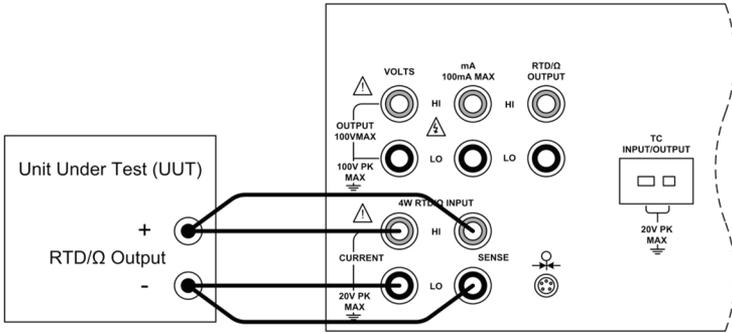

Figure 12 - RTD/ Ω Input Connection
- e) Connect the unit under test to the 4 wire RTD/ Ω input terminals of the PD9500 as shown in figure 12.